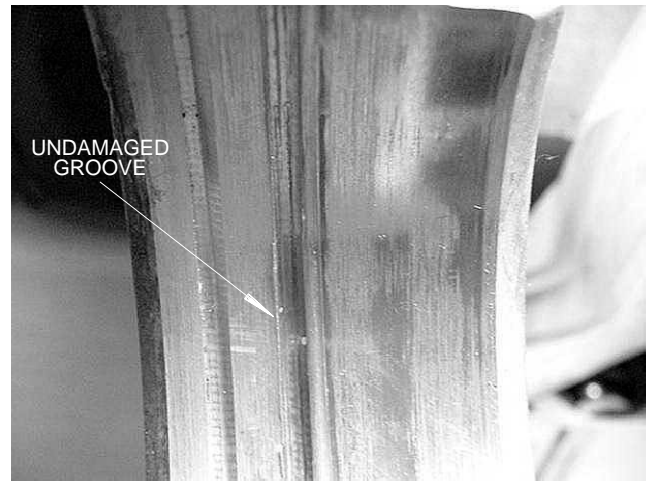

Figure 60
9. Inspect center plate for cracks and damage. Replace center plate if the snap ring groove has more than 15% of its edges damaged due to nicks, rounding, cracks or dents (Figs. 60 and 61).